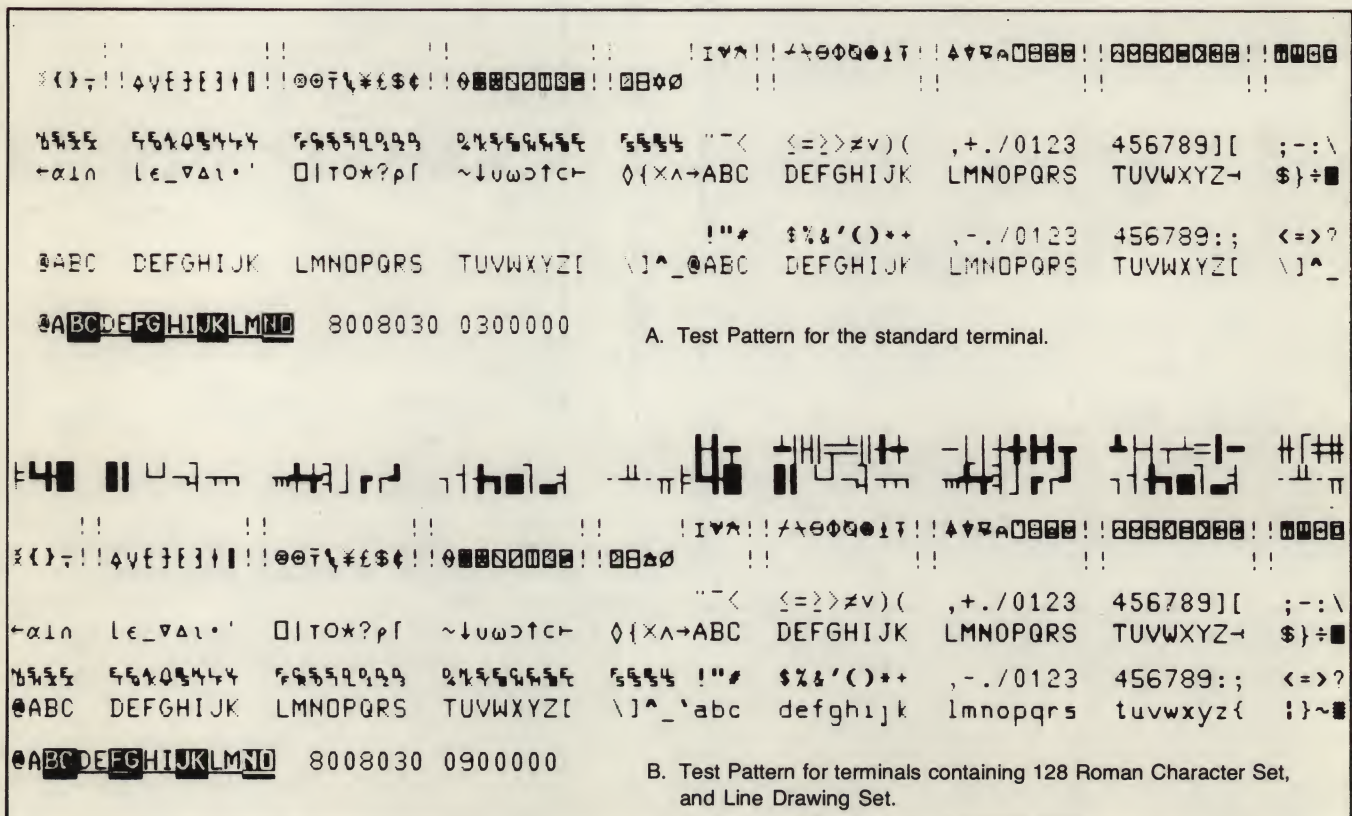

Figure 7-38. Basic Self-Test Patterns (HP 2641A)
- f. Basic self-test patterns for the HP 2641A are given in figure 7-38.